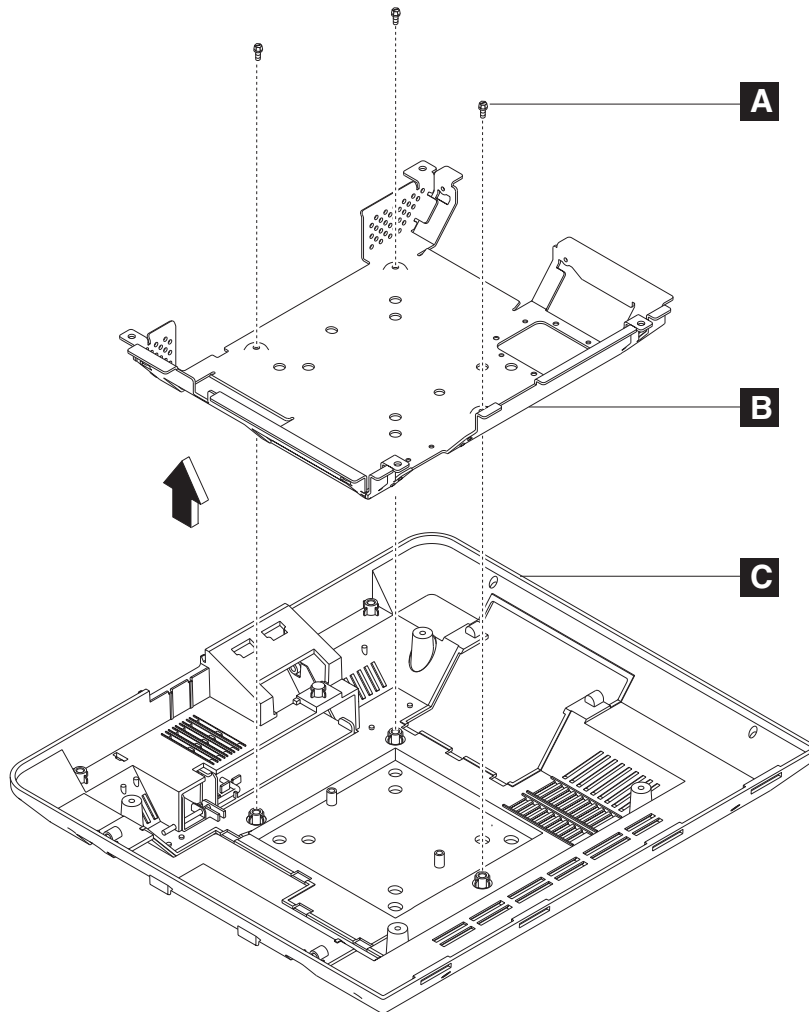

Figure 17. Removing the main shield
2. See Figure 17 and locate the main shield (**B**) that is attached to the back cover (**C**).